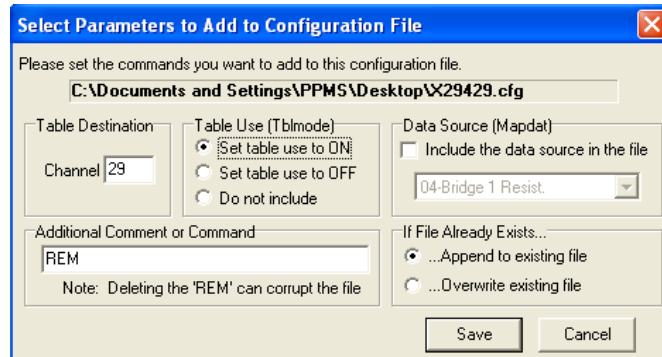

Figure 11. Select Parameters to Add to Configuration File dialog
- The **Select Parameters to Add to Configuration File** dialog will open (Figure 11) so that you can specify the characteristics of the new configuration file. Click in the **Set table use to ON** text box to activate the table.